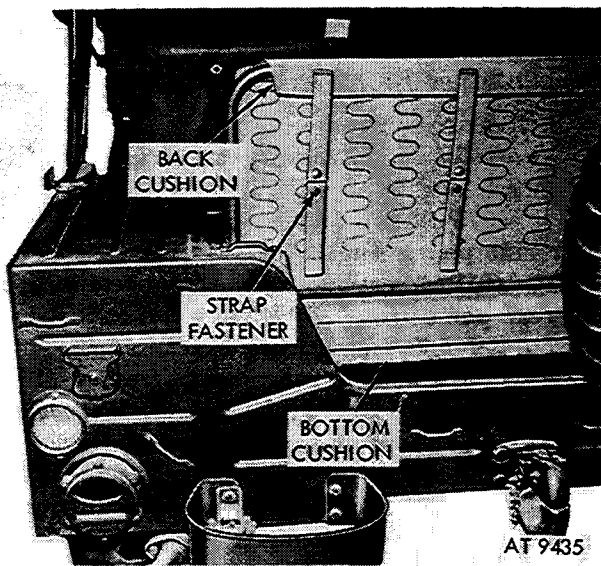

Figure 2-404. Rear seat (M151, M151A1, and M151A2).
**b. Rear Seat Cushion.** To remove the rear seat cushion on the M151, M151A1, and M151A2, unfasten the seat strap fasteners and remove the cushion from the tube frame (fig. 2-404). To remove cushions on M151A1C and M825 remove two screws holding cushion to frame. The M718 and M718A1 is removed by unlocking the turn button fasteners.